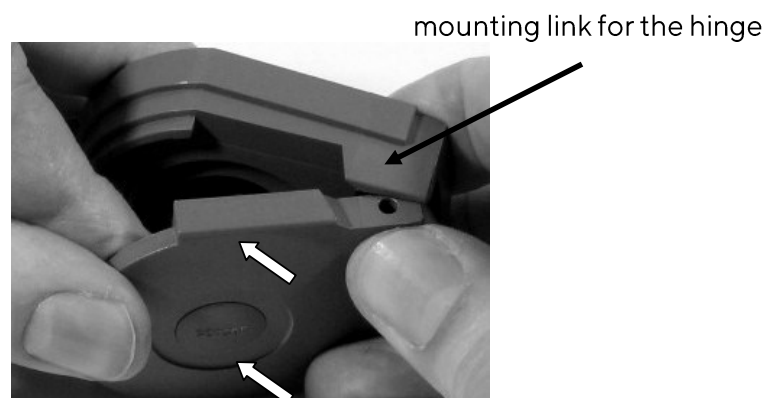

Figure 15 Docking Station Door insertion
2. Open the Docking Station Door (to an angle of approximately 120° (see Figure 15 Docking Station Door insertion)).